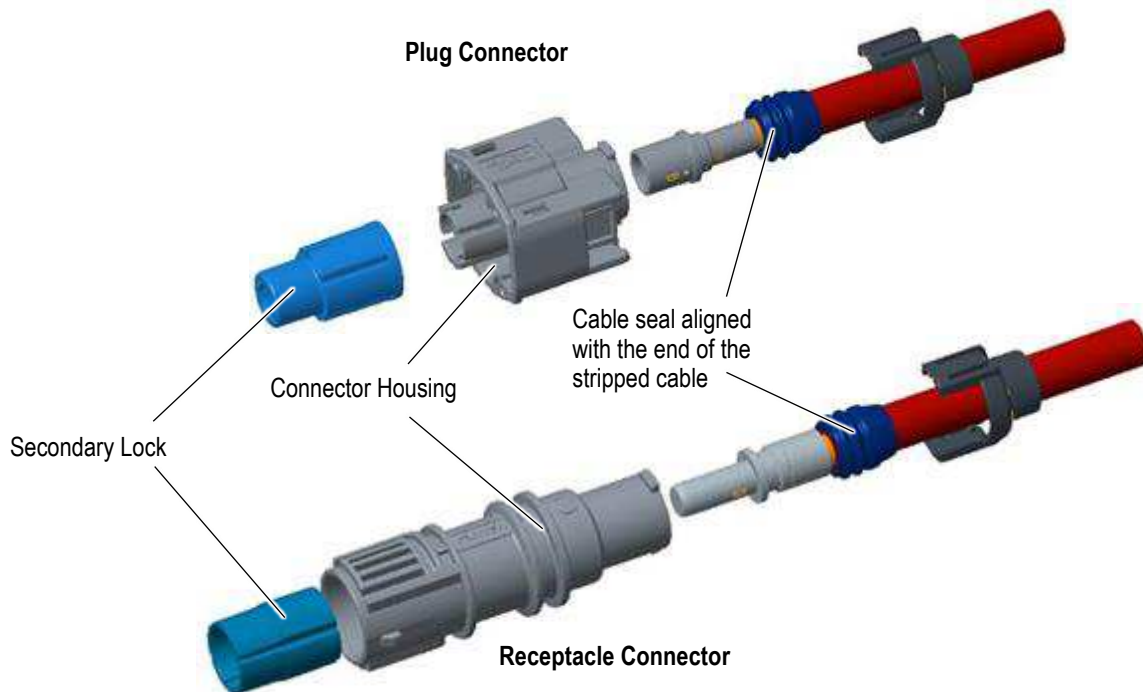

Figure 4
4. Slide down the cable seal and align it to the end of the stripped cable, see Figure 4